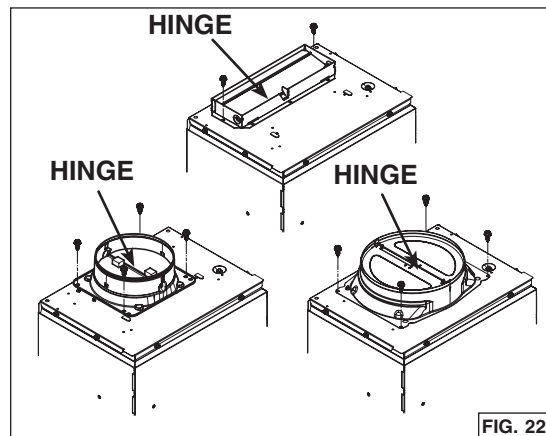

FIG. 22
10. For rectangular ducting, use 2 included no. 8-18 x 1/4" metal screws to attach the included 3 1/4" x 10" adapter damper on top of the unit, over the blower exhaust opening (FIG. 22).
For round ducting, use 4 included no. 8-18 x 1/4" metal screws to attach the included 6-in. round (or 8-in. round) adapter damper on top of the unit, over the blower exhaust opening (FIG. 22).